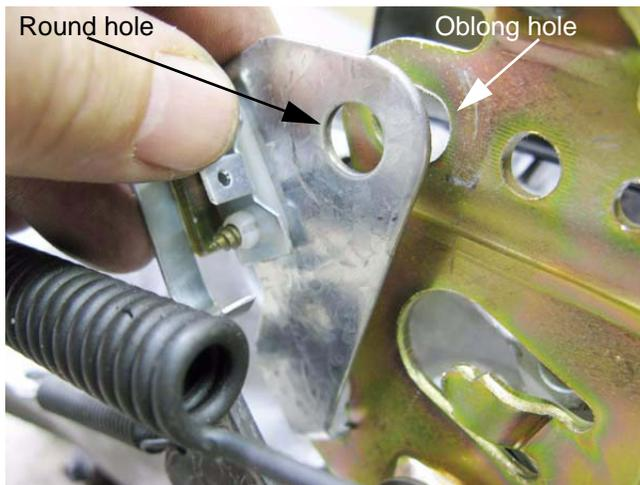

Figure 5.82
- 19a. The top of the reverse safety switch is held against the trunnion arm by the post on the drive control rod. See Figure 5.82.